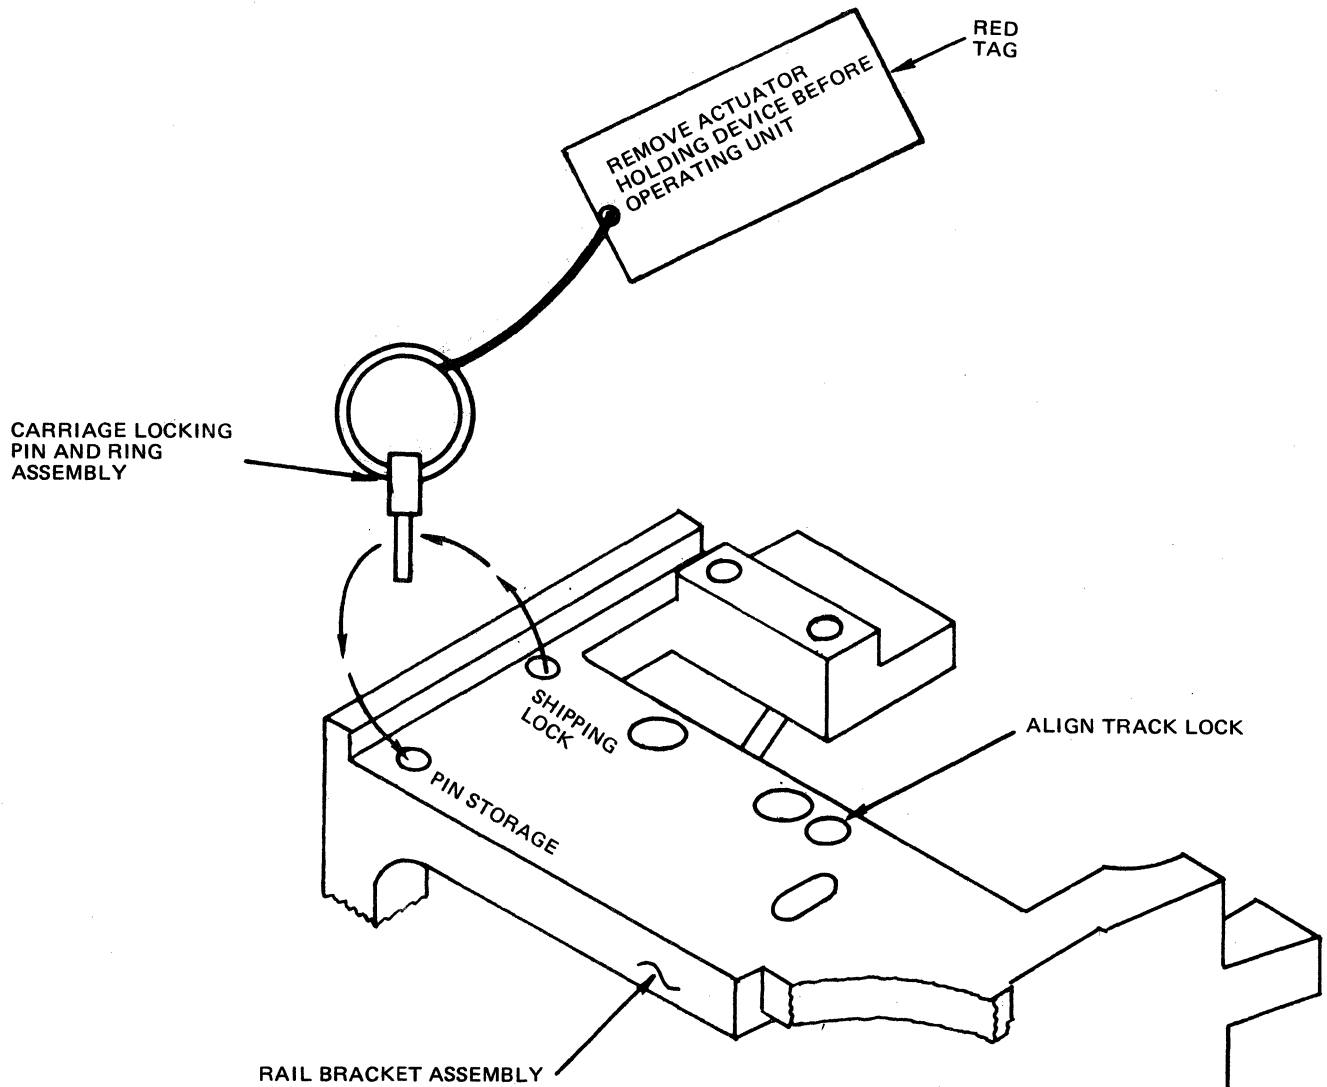

Figure 2-2 Removal of Carriage Locking Pin and Ring Assembly
2. Within expansion drawer, locate rail bracket assembly (see Figure 2-2) and remove taped down carriage locking pin and ring assembly (red tag attached) from SHIPPING LOCK hole and store assembly in PIN STORAGE hole.